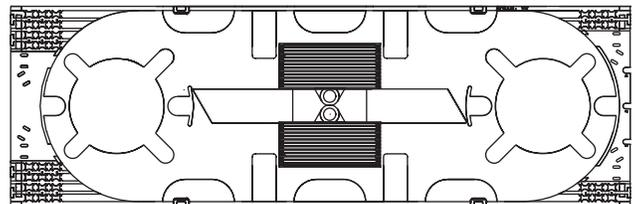

Figure 4
- For single fusion splices, place the stepped slot organizer assembly in the center of the recess and snap it into place (Figure 4).